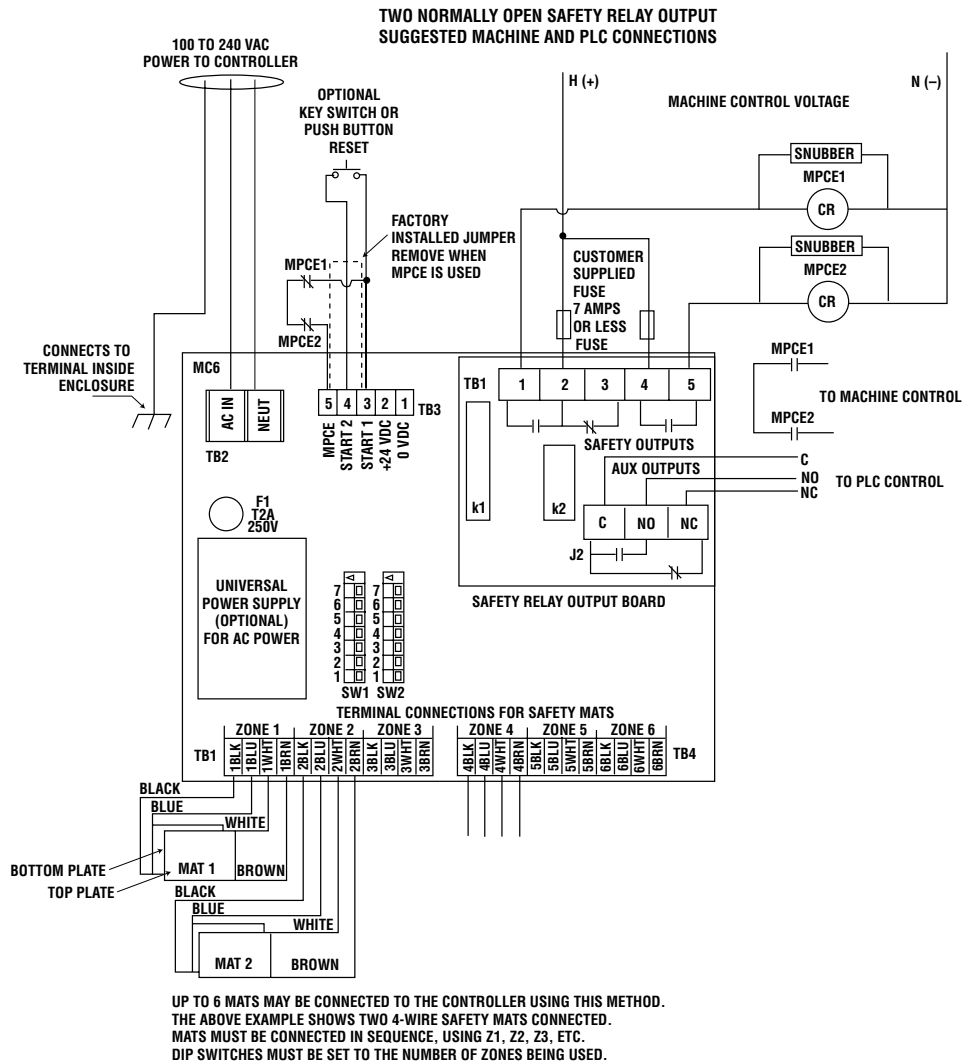
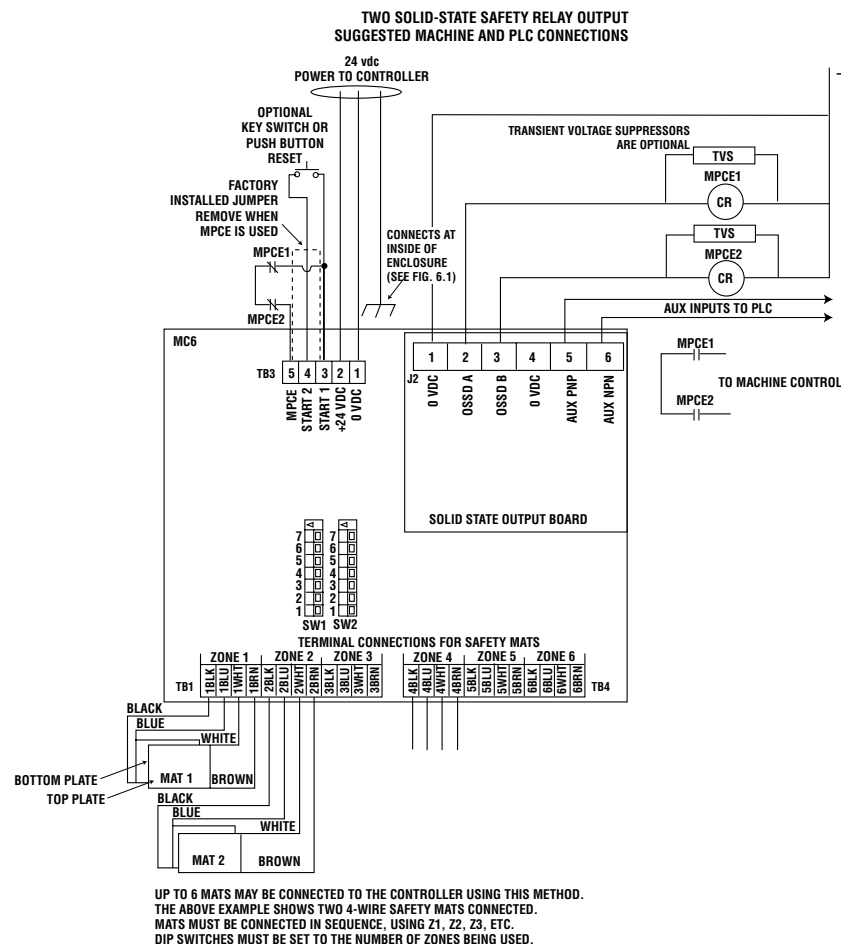

Figure 6-1 Two Normally Open Preferred Connection
Figure 6-2 Suggested Solid State Connection
Connect the remote start switch between terminals start 1 and start 2, on TB3 (See *Figure 6-1* and *Figure 6-2*).
Connect the wiring from the circuit to be monitored to start 1 and MPCE on the controller terminal block TB3 (See *Figure 6-1* and *Figure 6-2*).
At least one STI 4-wire mat must be connected. For an STI Universal safety mat the blue and black conductors are connected to the bottom electrode plate. The brown and white conductors are connected to the top electrode plate. For a single mat installation the black and blue conductors are connected to 1 BLK and 1 BLU, The brown and white conductors are connected to 1 BRN and 1 WHT. See “Figure 6.1 and 6.2 Connection Diagrams”.
The two safety outputs must be connected to the two MPCE's of the guarded machine, one to each. See *Figure 6-1* and *Figure 6-2*. The relay version offers two normally open (NO) safety outputs for this purpose. One normally closed (NC) safety output may be used as an auxiliary control input. The solid-state version offers 2 current sourcing outputs (PNP). The solid-state version is compatible with STI's RM4 module and could be used as 1 input device to the RM4. The customer shall wire the system using industry accepted methods. For relay outputs, external over-current protection must be provided by the user.
The following connection scheme uses both of the normally open output relay contacts to control the machine. This is the STI recommended wiring method. See “Figure 6-1 Two Normally Open Preferred Connection” on page 13.
Figure 6-2 shows the MC6 solid-state output version connections. The solid-state safety outputs are current sources that directly power the MPCE relay coils.